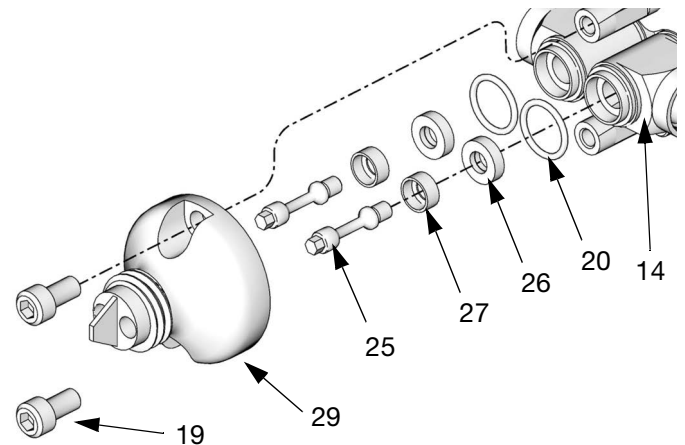
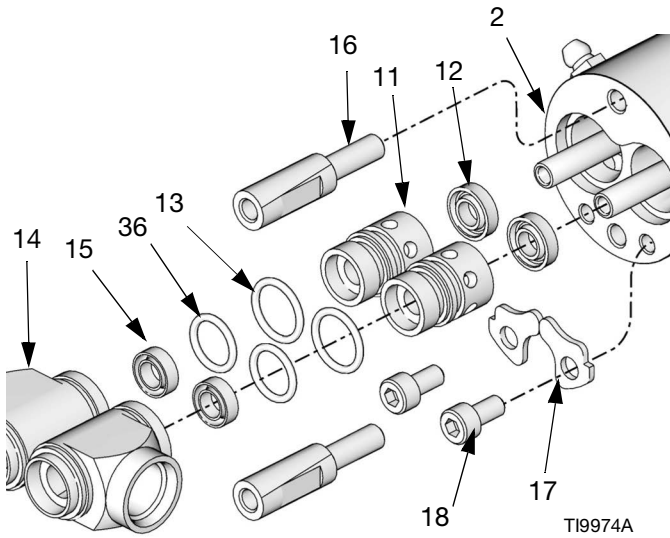

FIG. 5
FIG. 7
3. Remove the two nose piece screws (19), and pull the nose piece (29) away from the valve. Remove the needle seats (27) and o-rings (20) for the 255179 and 255181 models. See FIG. 5.
4. **255179 and 255181 only:** use a 5/32 in. socket (4mm) to unscrew the needle (25). If the shaft (5) spins, insert a dowel pin in the shaft hole to hold it steady, then unscrew the needle. Slide the seal (26) off the needle. Repeat for the other needle (25).
5. Remove the two fluid housing screws (18) and clamps (17) from the fluid housing (14). Slide the fluid housing (14) off of the air cylinder (2). See FIG. 7.
- Remove the bearings (11), bearing o-rings (36, 13), and secondary fluid seals (12, 15).
1. Lubricate the bearings (11), o-rings (13, 36) and seals (12, 15). Put the o-rings (13, 36) on the bearings. Carefully insert the seals (12) into the bearing recess, with the lips of the seals facing into the bearing. Insert the seals (15) into the bearing with the spring facing out of the housing. Be careful not to damage the seal lips. See FIG. 7.
2. Push the bearings (11) into the air cylinder (2).
3. Grease the fluid housing (14) and install over the bearings (11). Install the clamps (17) and screws (18). Tighten to 25-30 in-lb (2.8-3.4 N•m).
4. **255180, 255182, 255900, 255901, and 255902**, insert the gaskets (28) and seats (27).
5. Screw in the needle (25) and tighten it to 25-30 in.-lb (2.8-3.4 N•m). See FIG. 5.